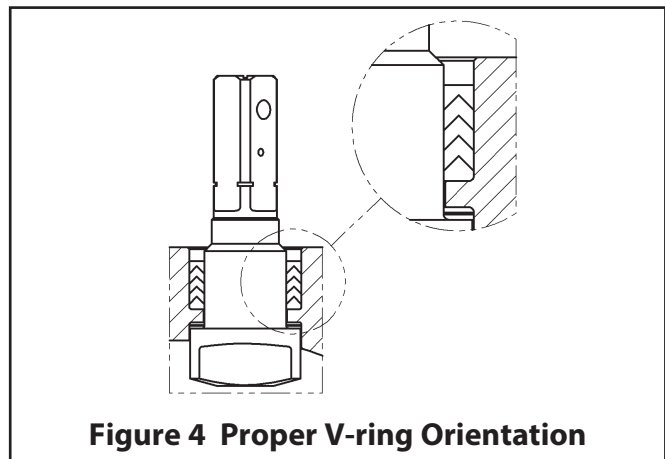

Figure 4 Proper V-ring Orientation
7. Insert the stem (5) through the body cap end of the body (1), being careful not to scratch the stem sealing surface; and press it gently up into the stem bore until resistance is felt from the thrust bearing.
8. Hold the stem in place from the bottom and insert the packing (69) (see **Figure 4** for proper v-ring orientation), over the stem (5).